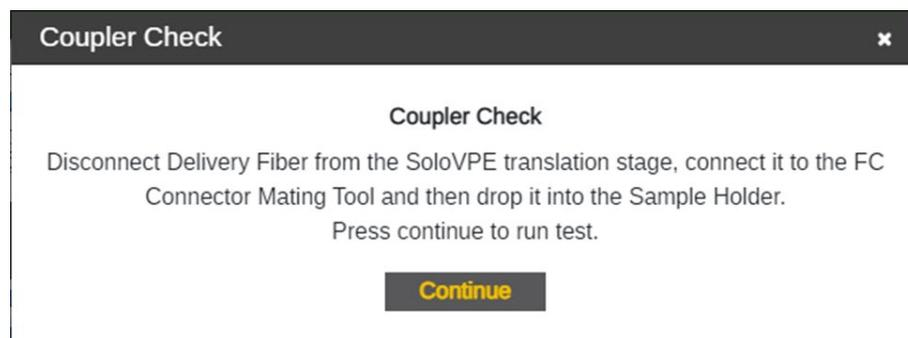

Figure 16. Coupler Check window prompt.
2. Press the Coupler Check button to baseline the Quick Check. A prompt will appear with instructions (see Figure 16).